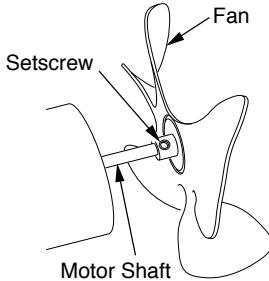

Figure 9 - Fan, Motor Shaft, and Setscrew Location
**IMPORTANT:** Remove fan from motor shaft before removing motor from heater. The weight of the motor resting on the fan could damage the fan pitch (see Figure 9).